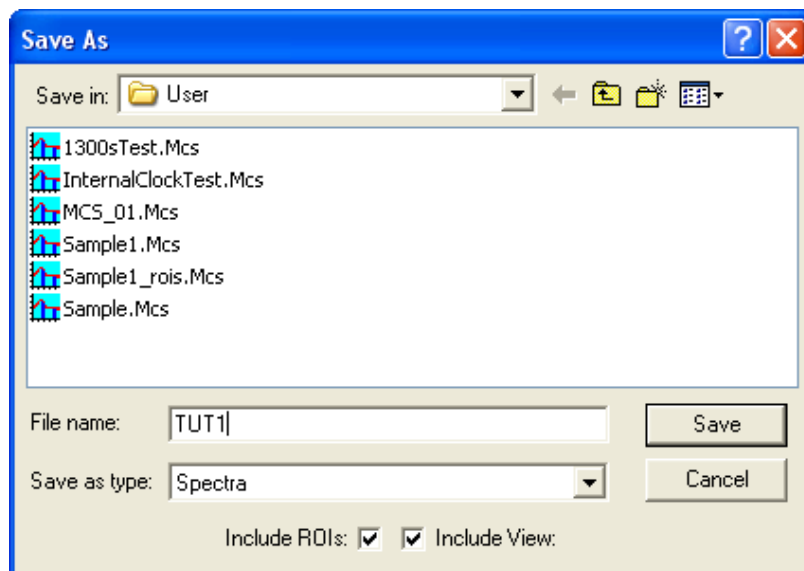

Fig. 13. Save File TUT1.MCS.
- Select **Save Data As...** from the **File** menu. This will open the dialog shown in Fig. 13.